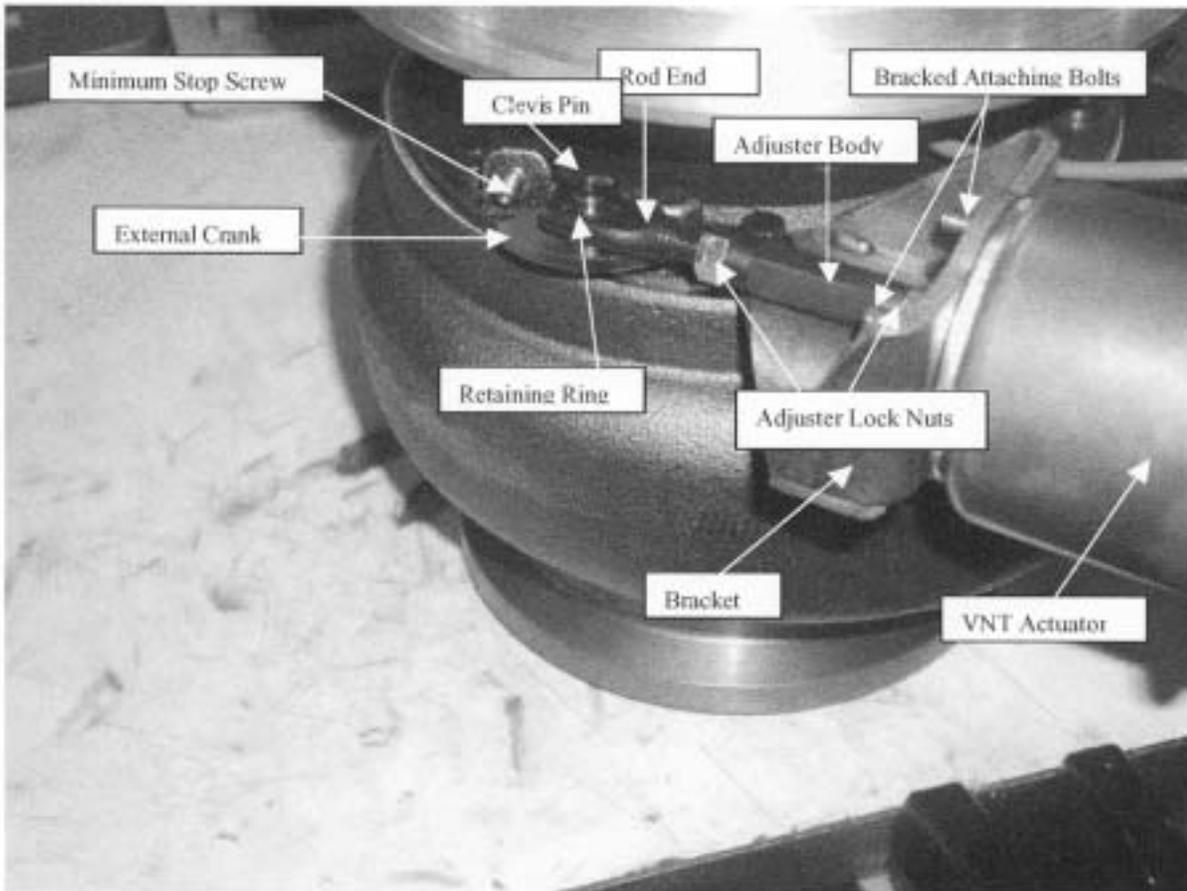

Figure 1
VNT Actuator Removal (Refer to Figure 1)
7. Rotate the ***adjuster body*** (see Figure 1) until a 0.004 inch \pm 0.001 (0.10 \pm .0250 mm) gap is achieved between the stop screw and clevis. Without allowing the adjuster body to rotate, tighten the lock nuts to 6.2 – 7.9 N-m (55 – 70 in-lbs).